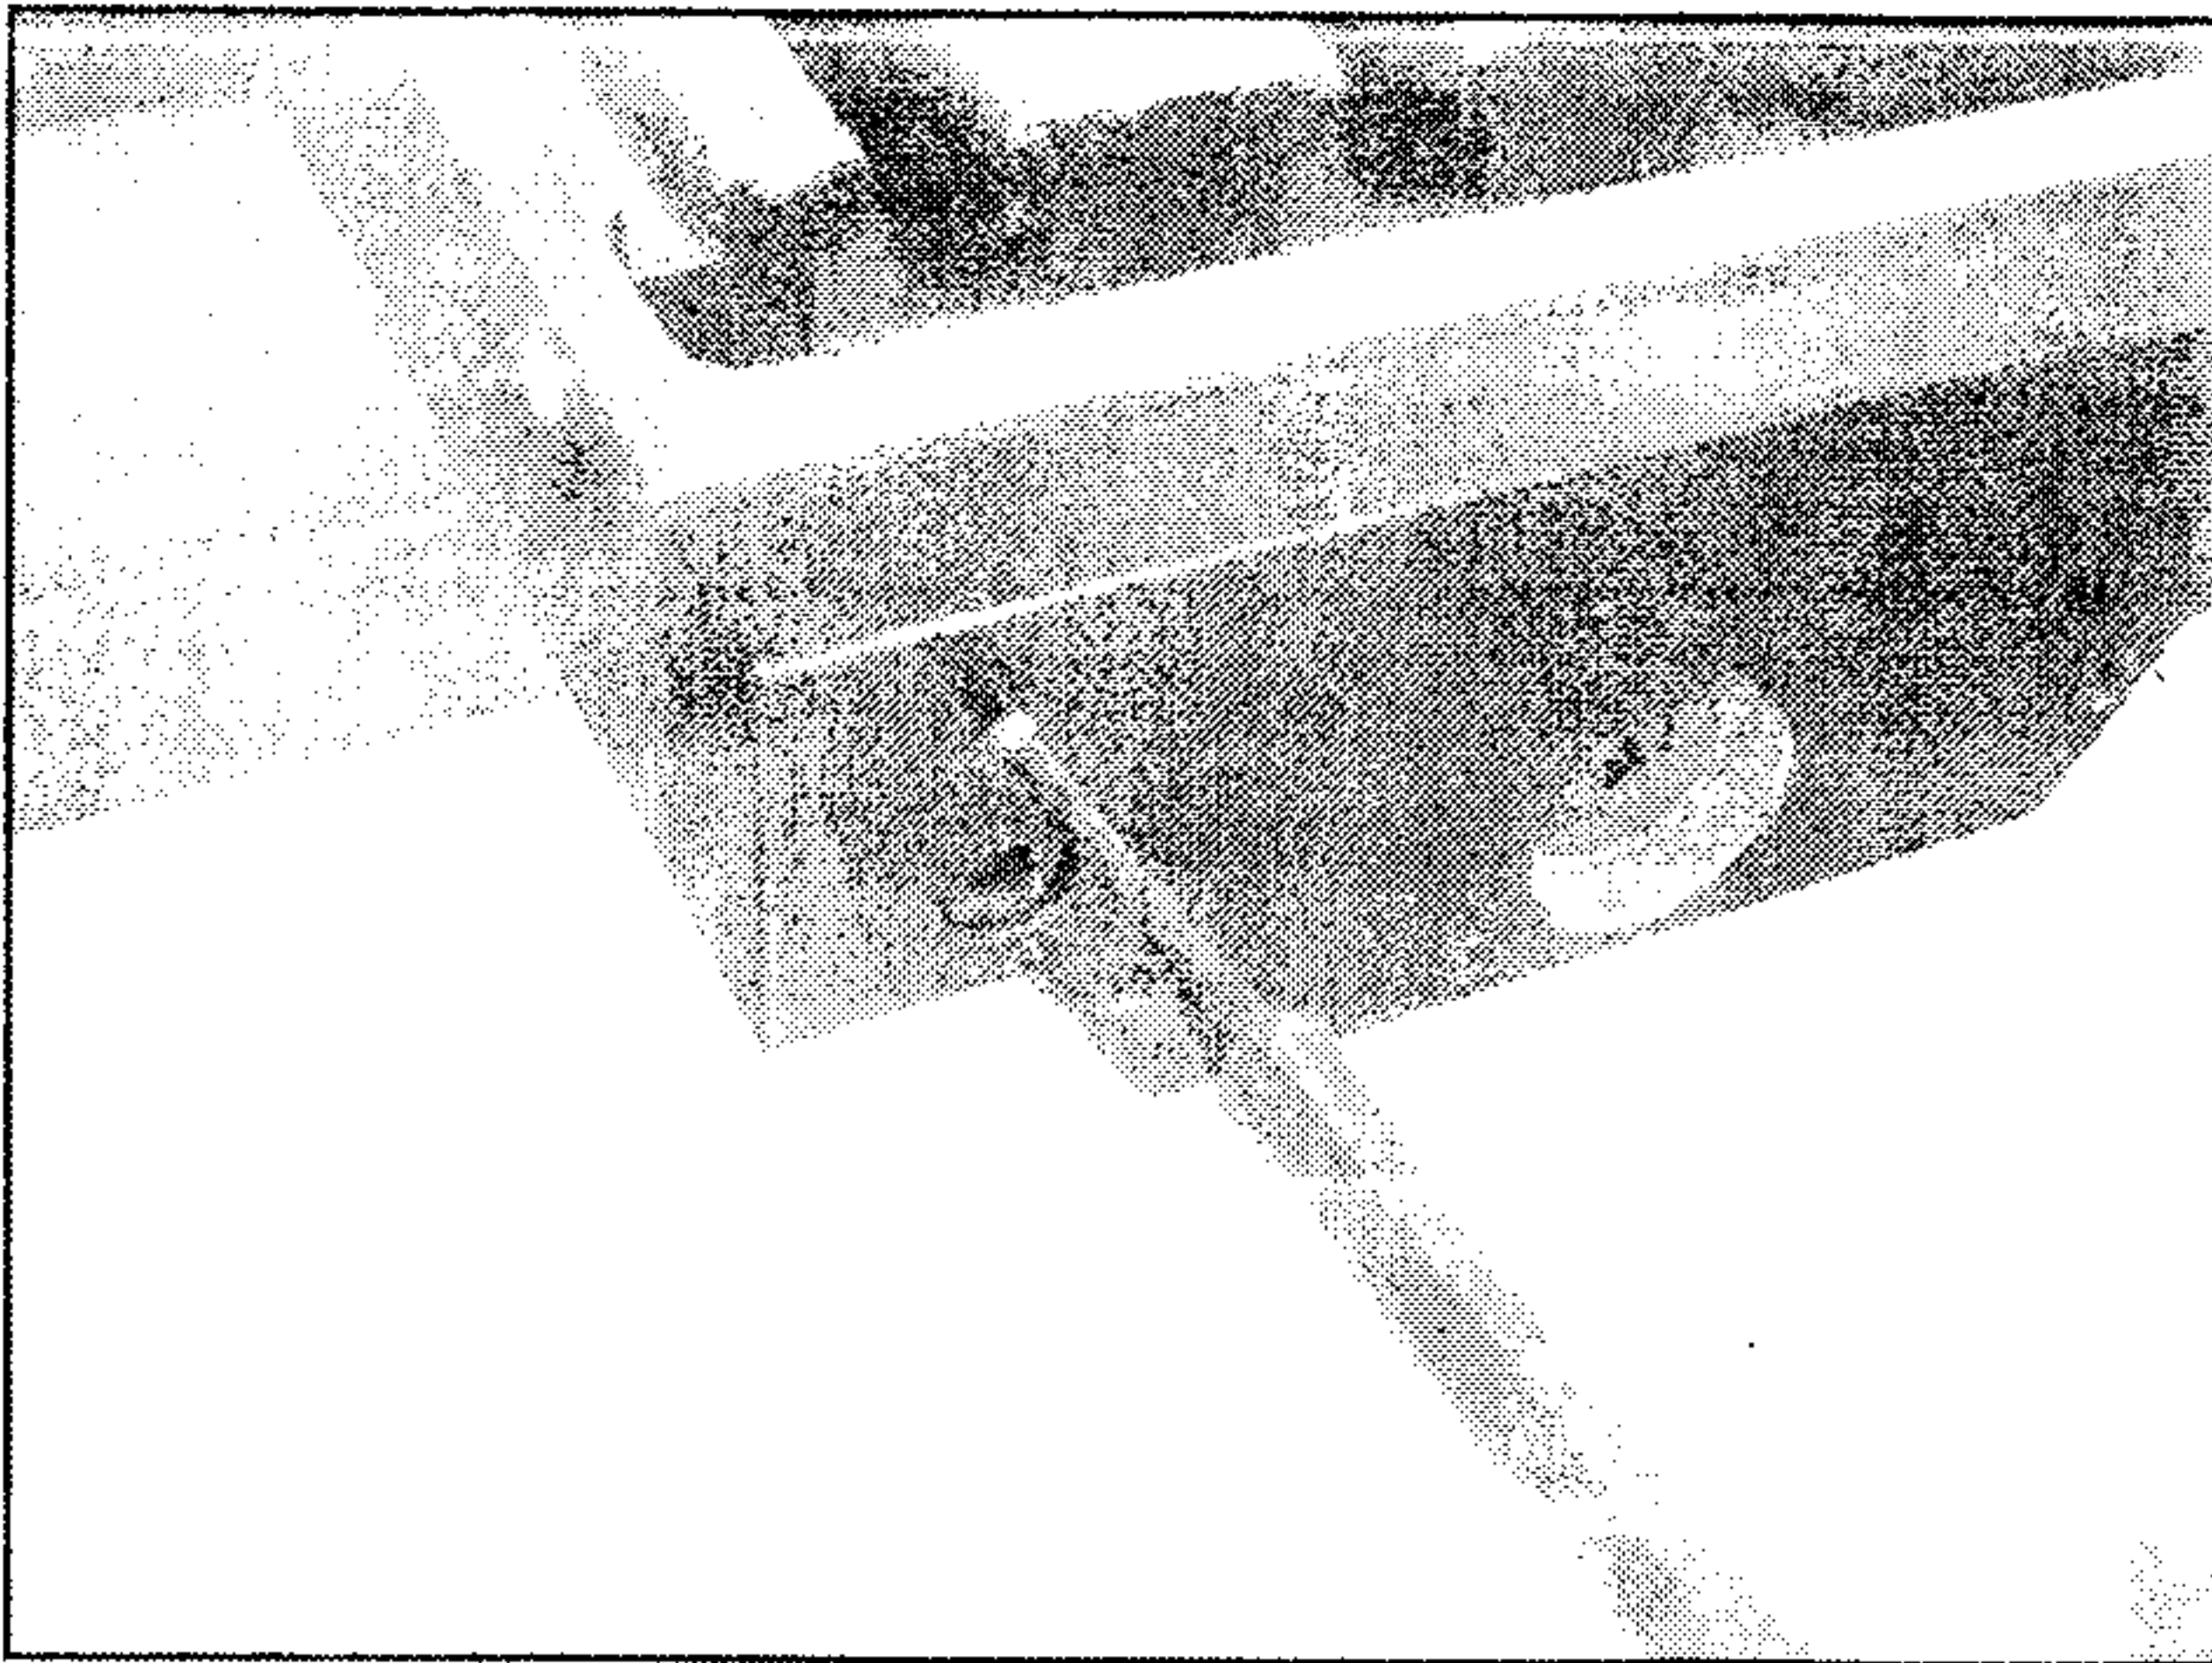

**Figure 11.** Bushing bore preparation.
17. Using a standard screwdriver, scrape away any paint from the bushing bore (**Figure 11**), so when the power feeder is mounted, the bushing sits properly in the bore without binding.